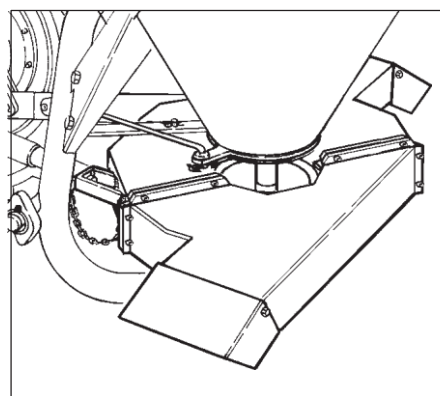

Fig.16
- Dual fertilizer conveyor (Fig.16)